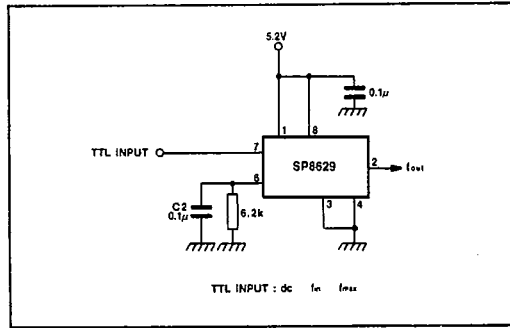

Fig.7 TTL input (DC $I_{in} < I_{max}$)
4. The input waveform will normally be sinusoidal but below 10MHz correct operation depends on the slew rate of the input signal. A slew rate of $50V/\mu s$ will enable the device to operate down to DC. The device will operate with a TTL input signal as shown in Fig. 7 and is DC coupled to the input.